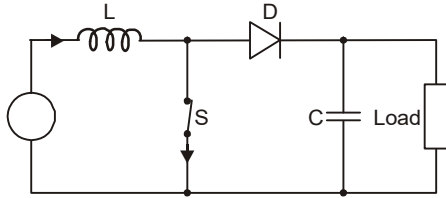

Fig. 5.11: On-state (Boost converter)
The two circuit configurations of a boost converter *i.e.* On-state, when the switch is closed, and Off-state, when the switch is open are shown in Fig. 5.11 and 5.12 respectively. The arrows indicate the direction of flow of conventional current.
- When the switch is closed (on-state), as shown in Fig. 5.11, the voltage which appears across the inductor is V_i . This causes a change in current (I_L) flowing through the inductor during a time period (t), it is given by the formula: